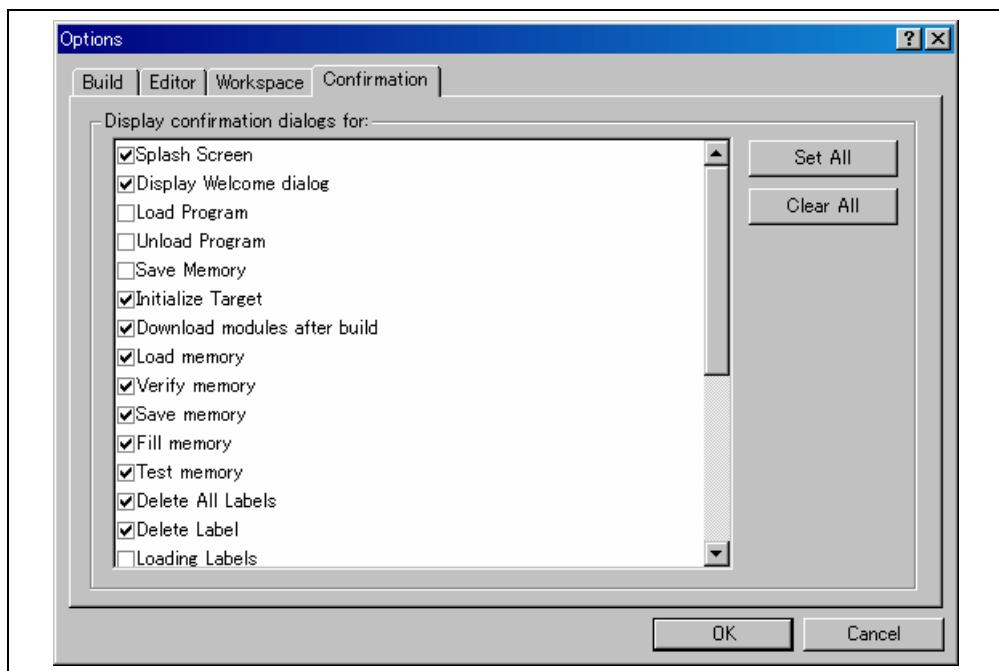

Figure 6.16: Confirmation Page for Optional Dialog Boxes
1. Select [Tools->Options...]. Then select the “Confirmation” tab (figure 6.16).